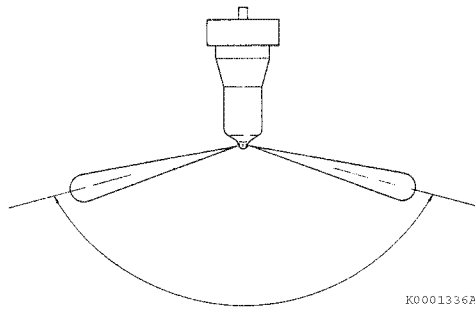
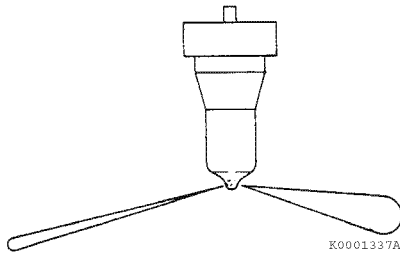

Figure 7-55
Figure 7-56
6. Pump the operating lever more rapidly to repeatedly “pop” the injector and observe the spray pattern. The pattern should be a very fine uniform spray (**Figure 7-55**). If a dripping or an uneven pattern is seen (**Figure 7-56**), service or replace the injector.